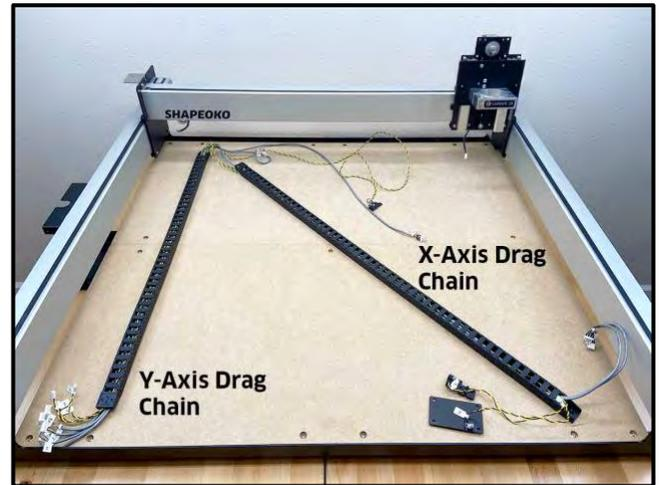

Figure 4
6. Remove the drag chain from the rails and lay it on the baseframe as shown in *Fig. 4*.